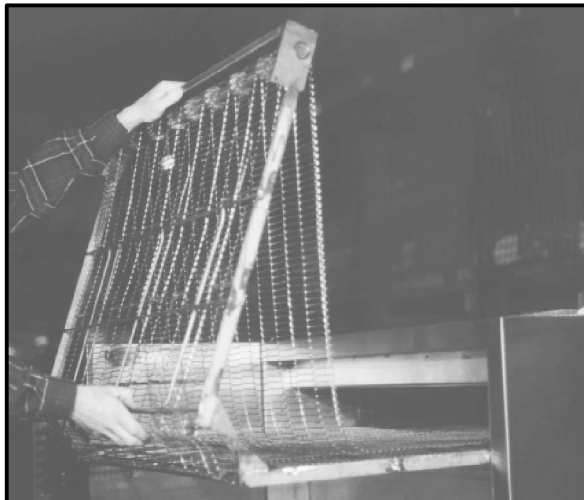

Figure 6
2. Push the conveyor into the support tracks. See Figure 6. **Be careful to avoid hitting the red emergency off switch on the side of the control box.**